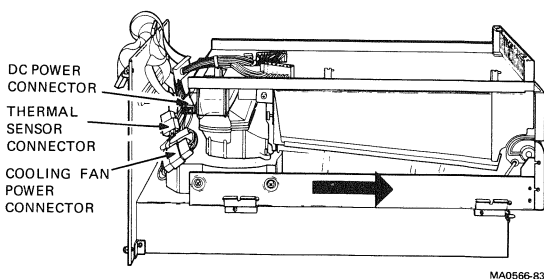

Figure 4-18 Uncabling the Tabletop Component Assembly
6. Unplug dc power harness connector (Figure 4-18).